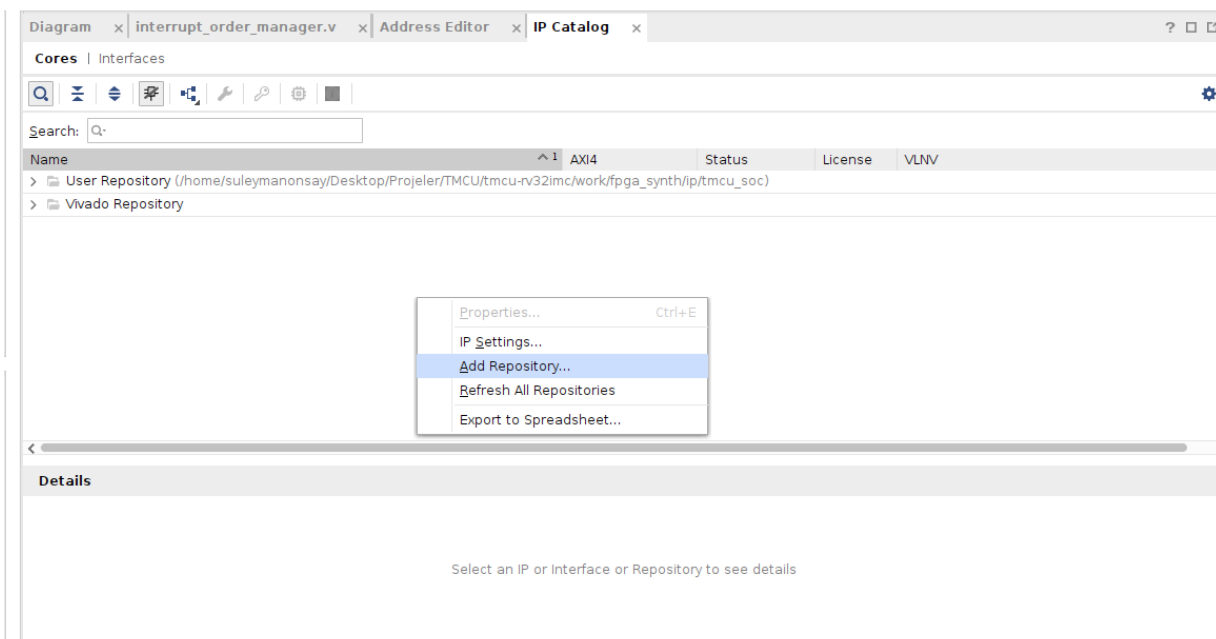

Figure 2.5: Add Repository selection on the IP Catalog.
2. An empty area within the IP Catalog is right-clicked and **Add Repository...** is selected (Figure 2.5).